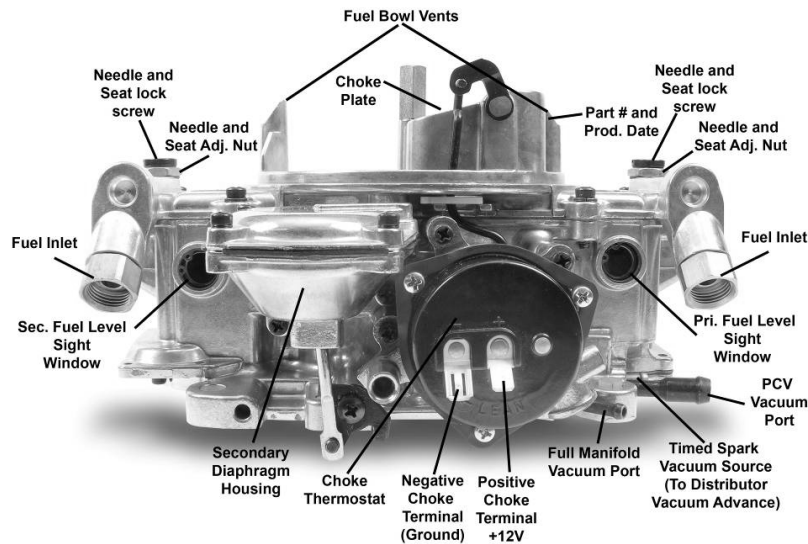
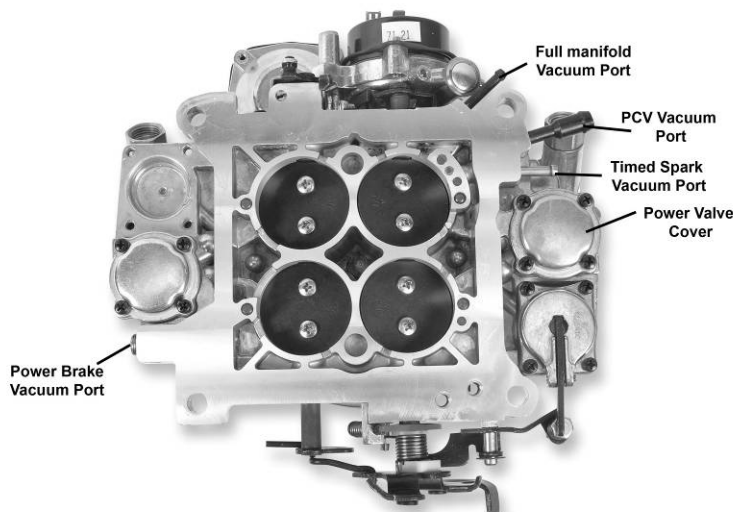

Figure 2
Figure 3a
6. Reconnect the appropriate vacuum hoses to the carburetor, noting the correct fitting from Figure 2 and Figure 3a. Replace any cracked or dry rotted hoses at this time to prevent any vacuum leaks.
8. If connecting a Power Brake hose, remove the 1/8" Std. Pipe Plug on the back of the carburetor and install the included barbed fitting as shown in Figure 3a.
- A. Connect the electric choke lead (supplied) to the positive terminal of the choke cap. **The other end must be connected to a good fused ignition activated 12-volt source.** Hookup of this wire is **not** optional. (Figure 2)